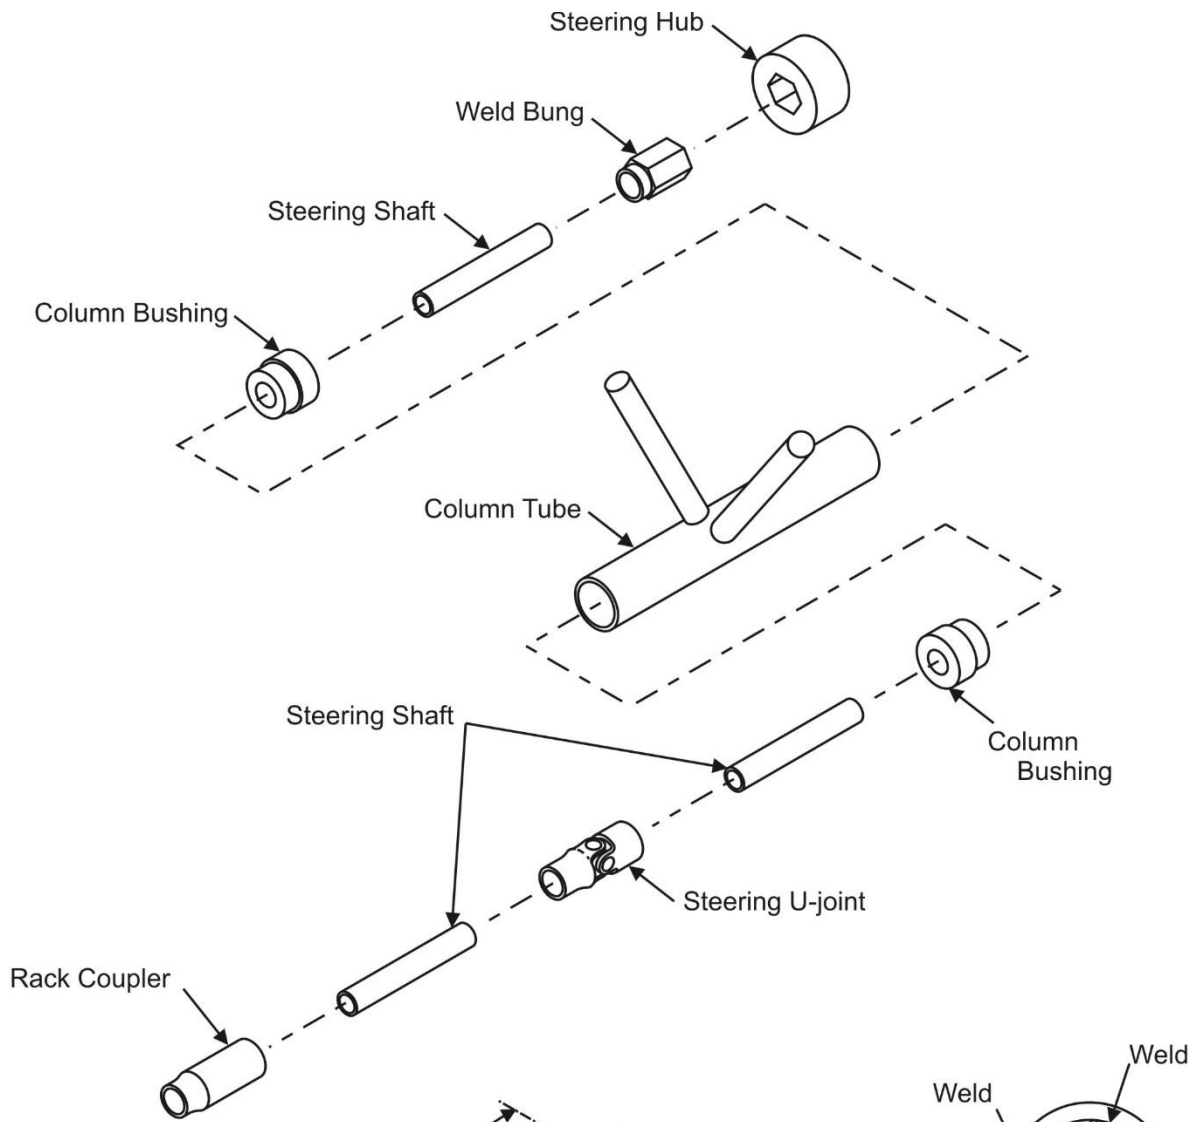

Figure 1
2...Install the female rack adapter over the rack shaft and bolt into place. Insert the short piece of 3/4" tubing into the adapter. Cut this piece of tubing off so that the U-joint is lined up with the center of the driver's seat. In some cases a second U-joint may be needed to accomplish this. Slide the long piece of 3/4" tubing into the U-joint far enough to be fully engaged but so far as to bind the joint. **(See Figure 3)** Mark and cut off the tubing so that the driver can sit in the seat. See **Figure 1** for assembly diagram.